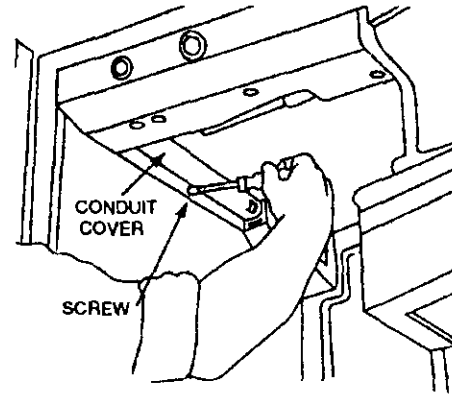

Fig. 11
- Remove the wiring cover at the top left inside of the refrigerator. (Fig. 11)